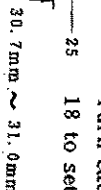

Fig. 18
Turn each of two (25) CORNERLOAD NUTS as shown in Fig. 18 to set the height between arrows to 30.7mm to 31.0mm.